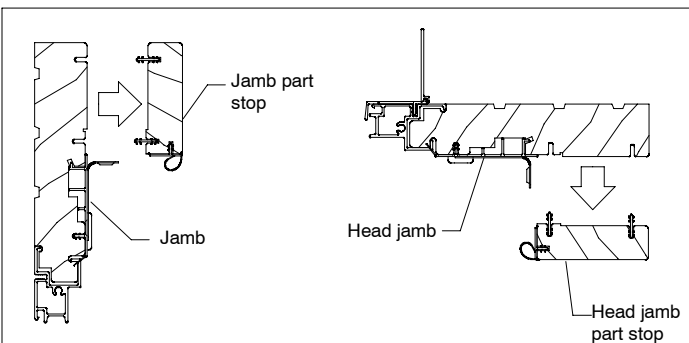

Figure 1
1. Remove head jamb and side jamb part stops and set aside in a safe location for reinstallation. See figure 1.